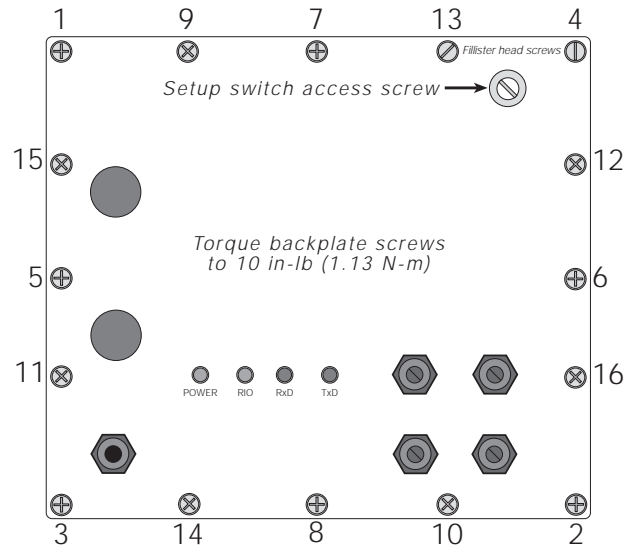

Figure 2-3. IQ plus 510/710/Remote I/O Backplate
21. Position the backplate over the enclosure and reinstall the backplate screws. Use the torque pattern shown in Figure 2-3 to prevent distorting the backplate gasket. Torque screws to 15 in-lb (1.7 N-m).
Once wiring and DIP switch configuration (see Section 2.3) are complete, position the backplate over the indicator enclosure and reinstall the backplate screws. Use the torque pattern shown in Figure 2-3 on page 3 to prevent distorting the backplate gasket. Torque screws to 10 in-lb (1.13 N-m).
Four LEDs on the IQ plus 510/710 backplate provide status information for the operator (see Figure 2-3 on page 3). Table 2-6 summarizes the function of the LEDs. See Section 6.0 on page 34 for more troubleshooting information.